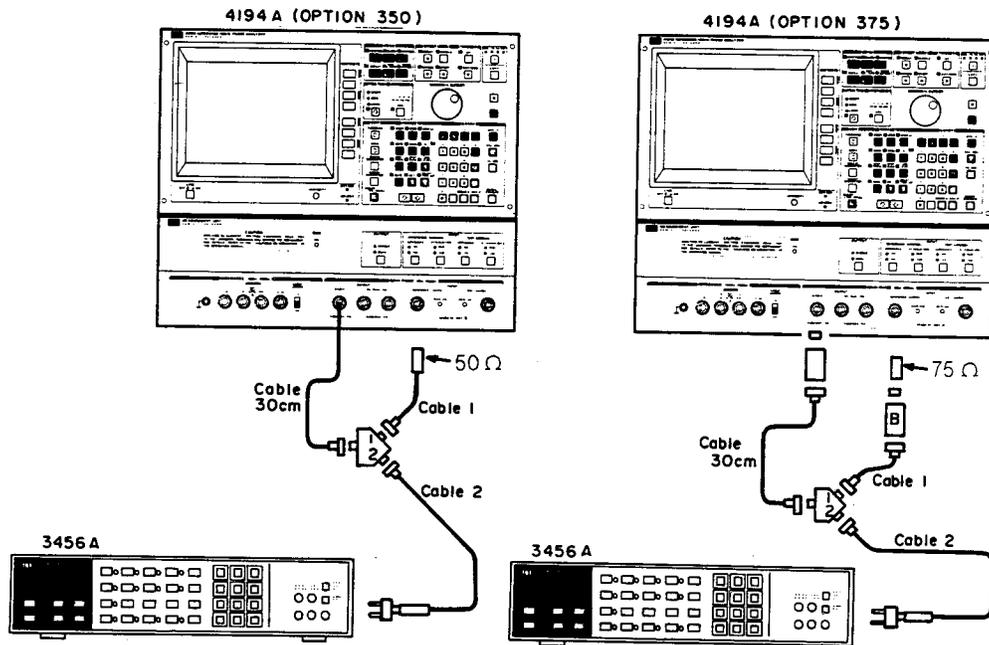

Figure 4-16. Amplitude Measurement Accuracy Test Setup 2
1. Connect the appropriate (50 Ω or 75 Ω) feedthrough termination to the REFERENCE CHANNEL as shown in Figure 4-16.